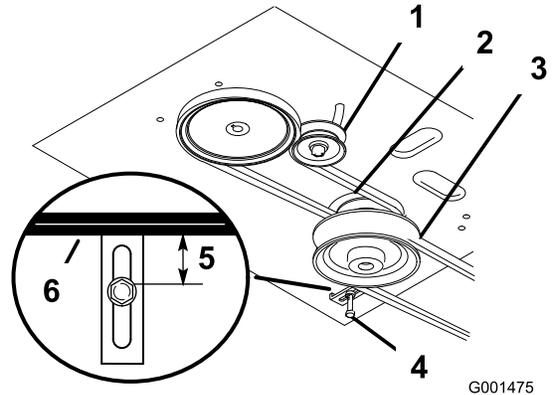

Figure 38
4. Remove the mower belt (Figure 38).
5. Loosen the pivot bolt enough to slide the idler pulley in the slot, and remove the traction belt from the engine and the drive pulleys (Figure 38).
6. Install the new drive belt around the engine and the drive pulleys (Figure 38).
7. Slide the idler pulley in the engine frame to tension the traction belt (Figure 38).
8. Install the mower belt (Figure 38).
9. Check the belt guide under the engine frame for the proper adjustment (Figure 38).
13. Check the belt guide under the engine frame for the proper adjustment (Figure 38).